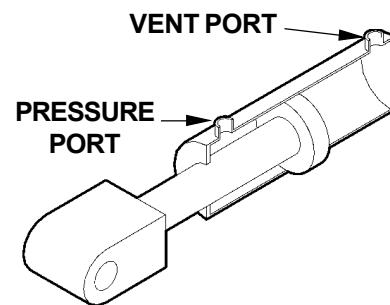

FIG. 37-1
4. Check the Hydraulic Cylinder. With the Platform on the ground, remove the Breather Plug or Vent Line from the Vent Port of the Cylinder (**FIG. 37-1**). Raise the Platform even with the bed. Allow pump motor to run two seconds more while you watch for hydraulic fluid at the Vent Port. A few drops of hydraulic fluid escaping the Vent Port is normal; however, if it streams from the Vent Port, Piston Seals are worn. Replace Seals.